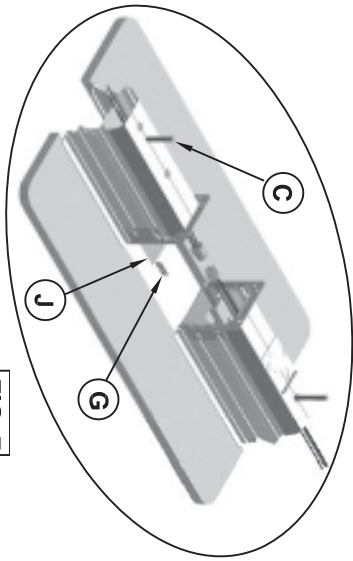

FIG. 7
MOUNT NEXT FIXTURE IN A SIMILAR FASHION AS FIRST FIXTURE AND POSITION IT SUCH THAT THE ALIGNMENT TABS (G) FIT INTO THE FIRST FIXTURE. MAKE CONNECTION OF THE WIRE HARNESS (H) AND PUSH EXCESS WIRE BACK INTO FIXTURE. MAKE SURE THAT WIRE IS NOT PINCHED BETWEEN JOINT AND SLIDE FIXTURES TOGETHER. JOIN FIXTURES TOGETHER BY TIGHTENING NUT ONTO ACCESS PLATE STUD WITHIN WIREWAY CHAMBER. (REF. FIG. 7)